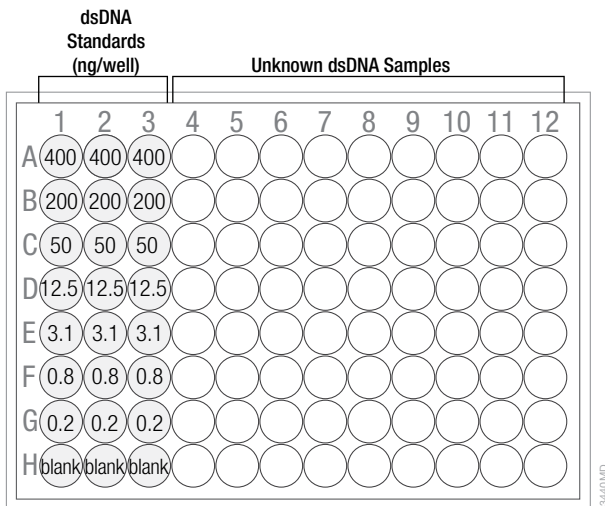

Figure 3. Dispense standard dilutions and blank samples in triplicate into Columns 1, 2 and 3 of a multiwell plate.
3. Pipet 1μl of the dsDNA standards prepared in Table 1 above (labeled Standards A–G) to rows A–G of the multiwell plate (Figure 3). We recommend pipetting duplicates or triplicates of the standards.